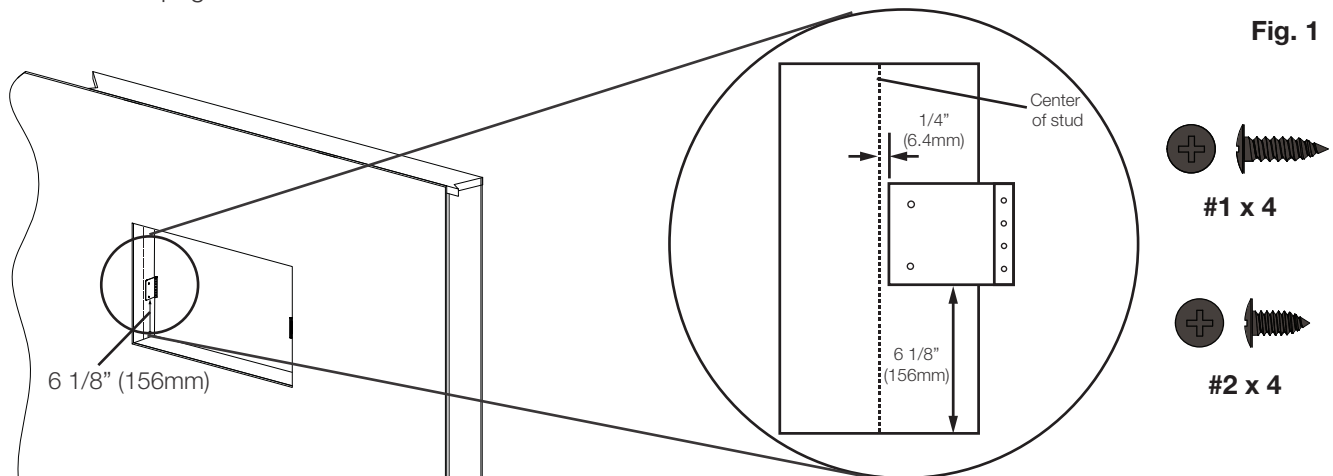

Fig. 1
- D. Install mounting bracket by aligning the edge  $1/4"$  (6.4mm) from the center of the wall sides and  $6\ 1/8"$  (156mm) from the bottom of the wall sides (**Fig. 1**). Use the mounting bracket installation template on the next page.